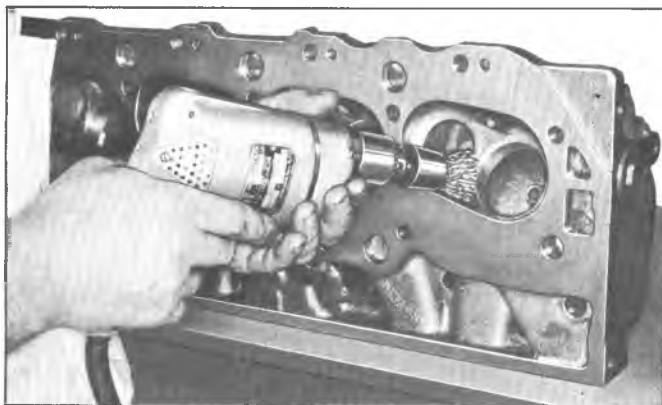

Fig. 14—Cleaning Combustion Chambers
1. Clean all carbon from combustion chambers and valve ports using Tool J-8089 (fig. 14).